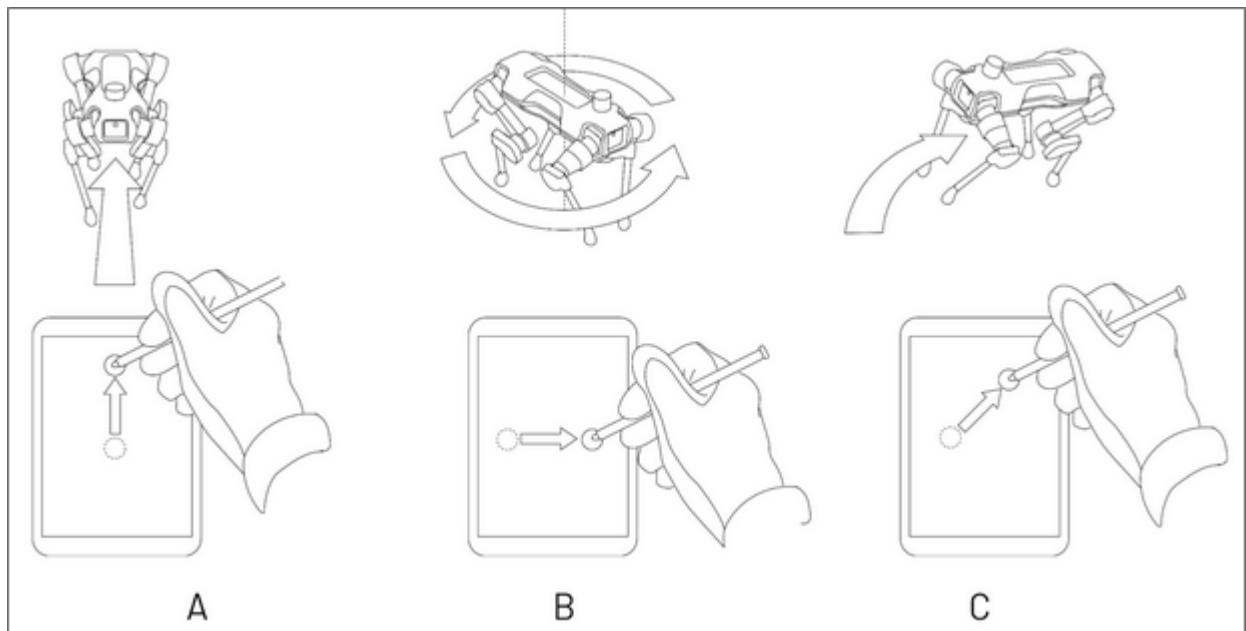

Figure 56 - Steering the Robot in the main mode
- Forward: slide upward [A in Figure 56].
- Around the yaw axis: slide sideways [B in Figure 56].
- Turn while walking: slide diagonally [C in Figure 56].